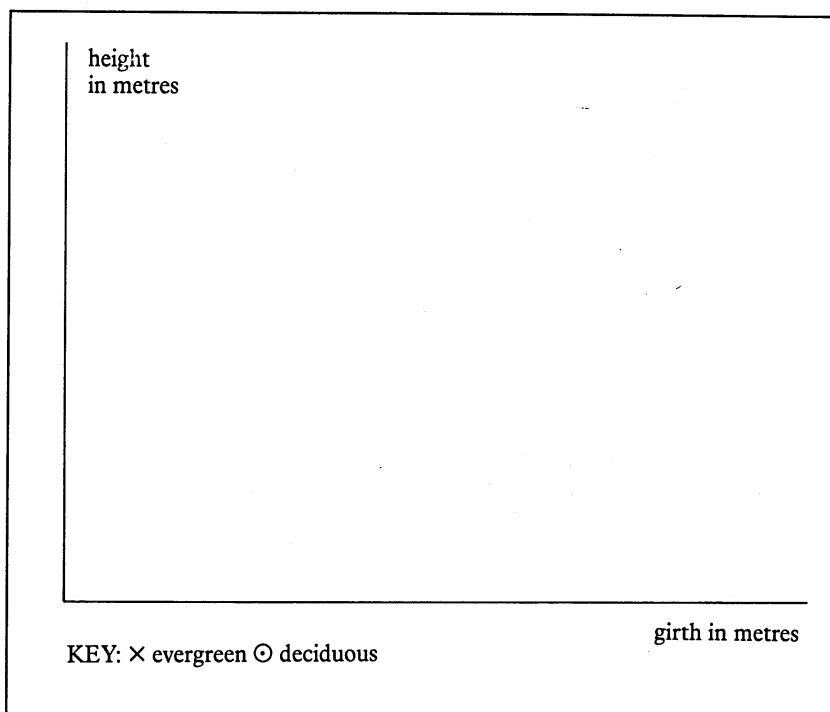

Figure 5
- 6 (a) Plot height (y axis) against girth (x axis) for each tree in Table 1. Use the axes shown in Figure 5. Use crosses (X) to plot the values for evergreen trees and dots (◎) for deciduous ones.